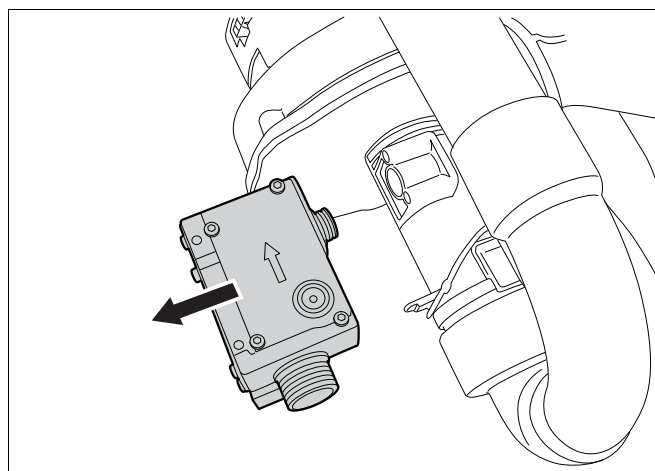

fig. 47 Dismantling the gas control valve
- Remove the gas control valve (see fig. 47).